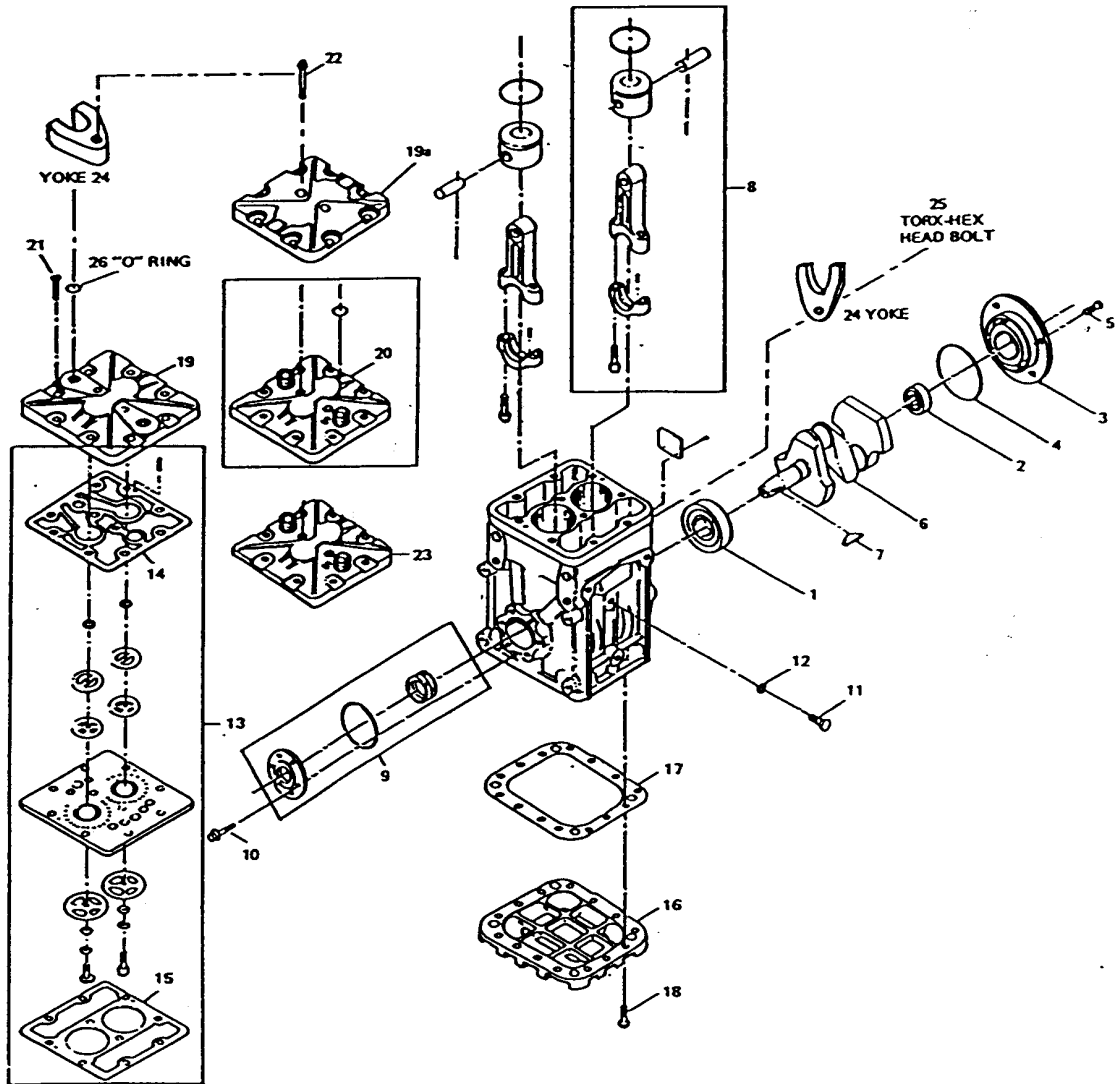

FIGURE 5.
10.1 FIGURE 5 shows the parts breakdown of the compressor. Not all parts are procurable. Only those parts available are listed. Refer to the following Legend.
| FIG. 5- ITEM | PART NUMBER       | DESCRIPTION           | USAGECODE | QTY PERASSY. |